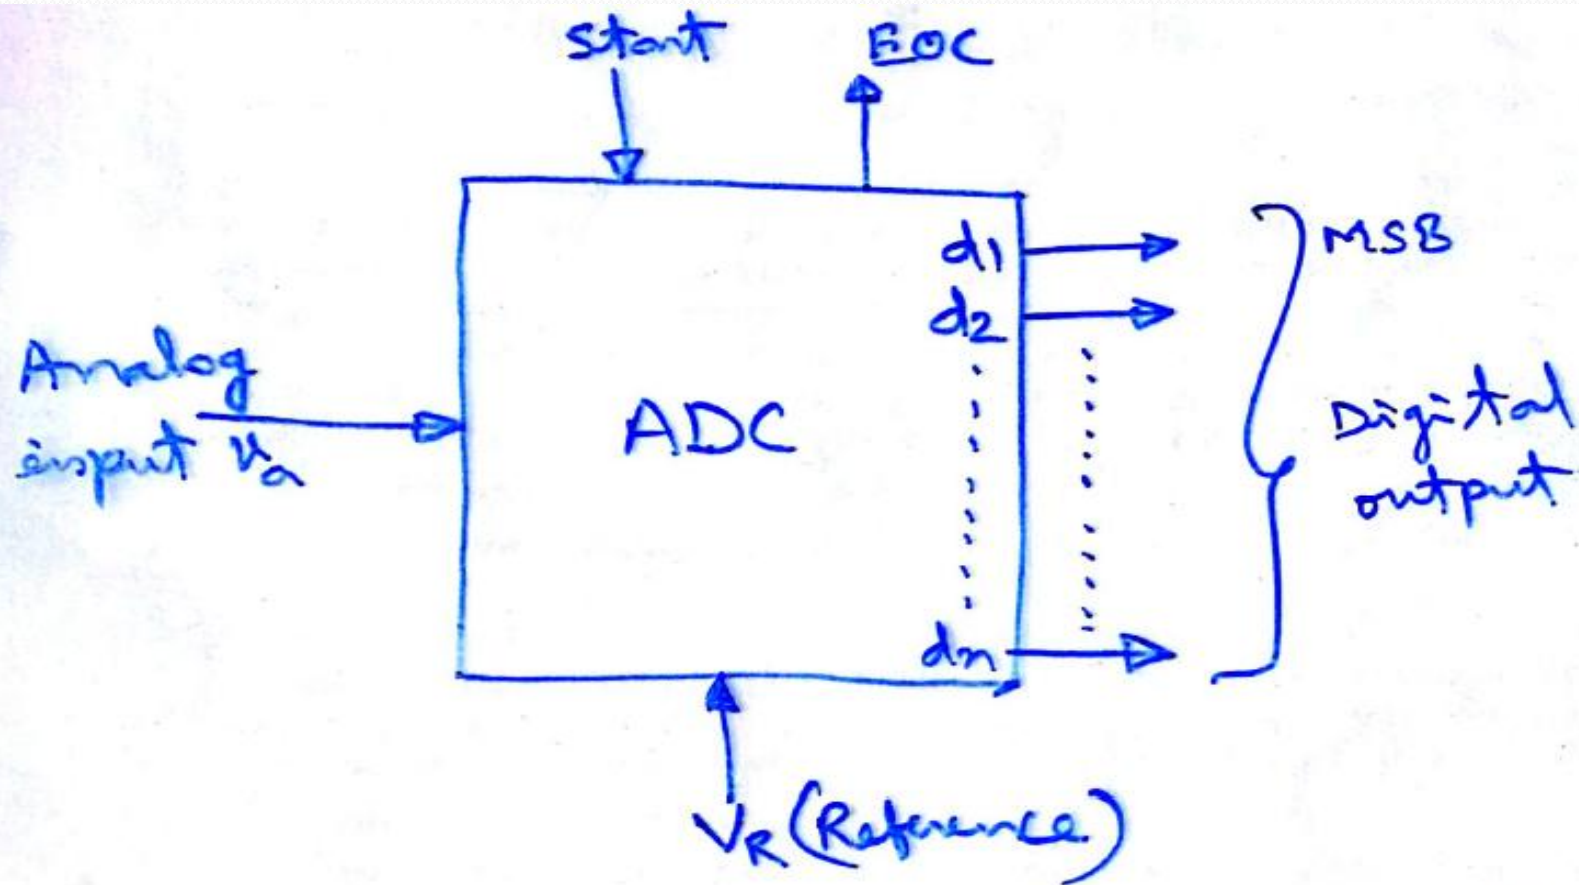

Fig 10.9 Functional diagram of ADC.
- The block schematic of ADC shown in Figure 10.9 provides the function just opposite to that of a DAC.